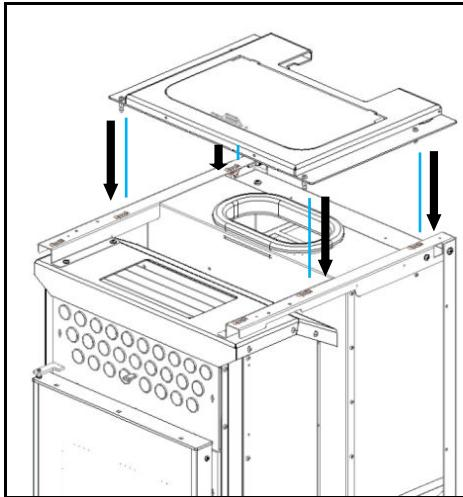

Figure 84 – Top cover placement
- b) Fit the front grille, matching the holes in the grille to the holes in the appliance (Figure 84).